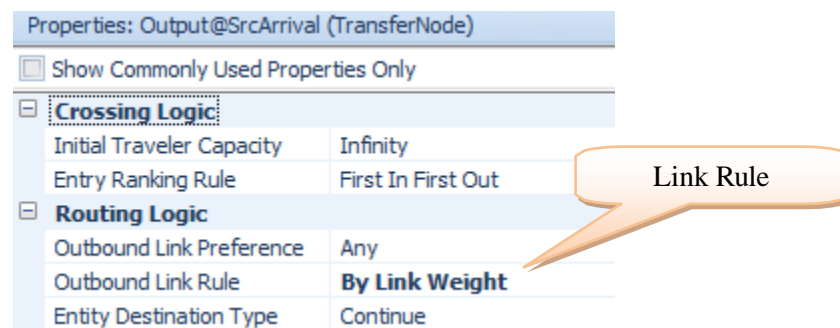

Figure 4.4: Outbound Link Rule
Step 5: Remember to select the Outbound Link Rule to “By Link Weight” on the `TRANSFERNODE` `Output@SrcPassengersArrive` (see Figure 4.4).²⁹